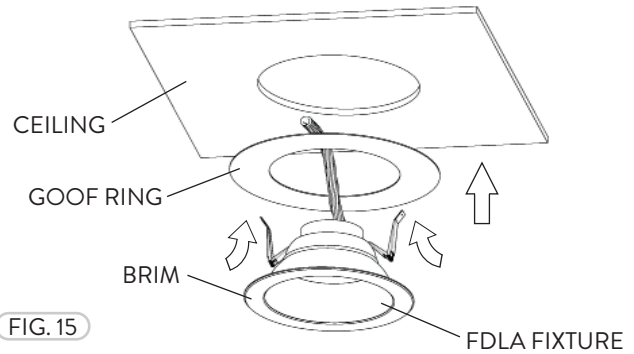

FIG. 15
- 1 The Optional Goof Ring Extender is available for all FDLA models and their respective sizes. Prior to installation, shut power OFF to the fixture. With the Tabs upward, slide the Goof Ring onto the FDLA Fixture Brim. Place the FDLA Fixture up towards the ceiling opening (Fig. 15). Please refer to wiring diagram for wire installation.